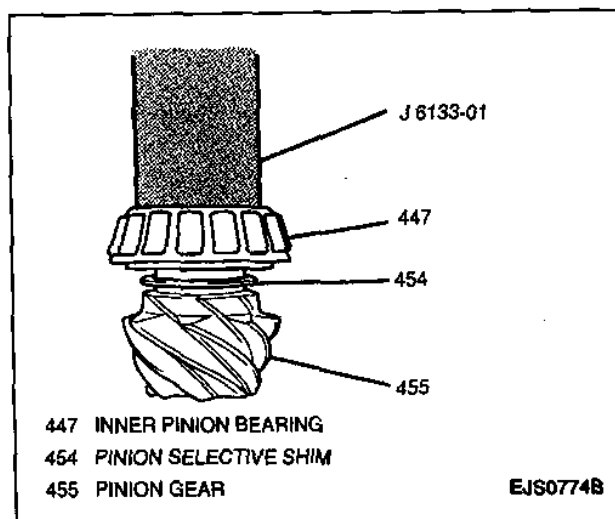

Figure 77—Installing Inner Pinion Bearing
Figures 77 through 81
2. Inner pinion bearing on the pinion gear shaft using a J 6133-01 (Figure 77). Place the pinion gear on a hydraulic press and install the inner pinion bearing on the pinion gear shaft with the tapered side facing away from the pinion gear. Then, place the J 6133-01 on the pinion shaft and slowly press the inner pinion bearing into place.